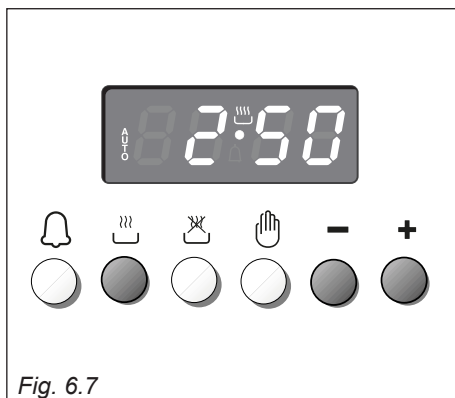

Fig. 6.7
1. Set the length of the cooking time by pushing the  button and the  button to advance, or  to go backwards if you have passed the desired time (fig. 6.7).